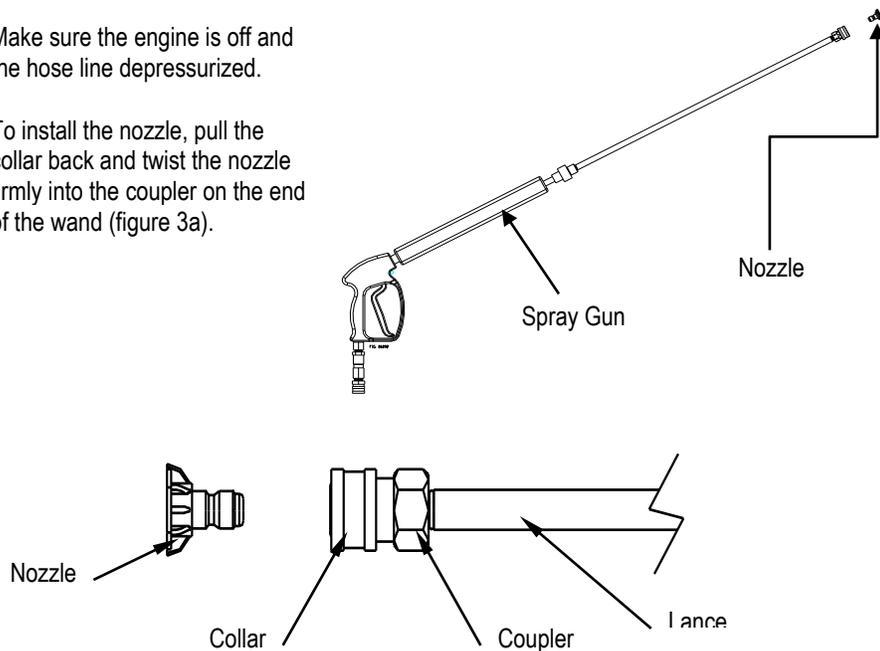

Figure 3a
- 2) To install the nozzle, pull the collar back and twist the nozzle firmly into the coupler on the end of the wand (figure 3a).